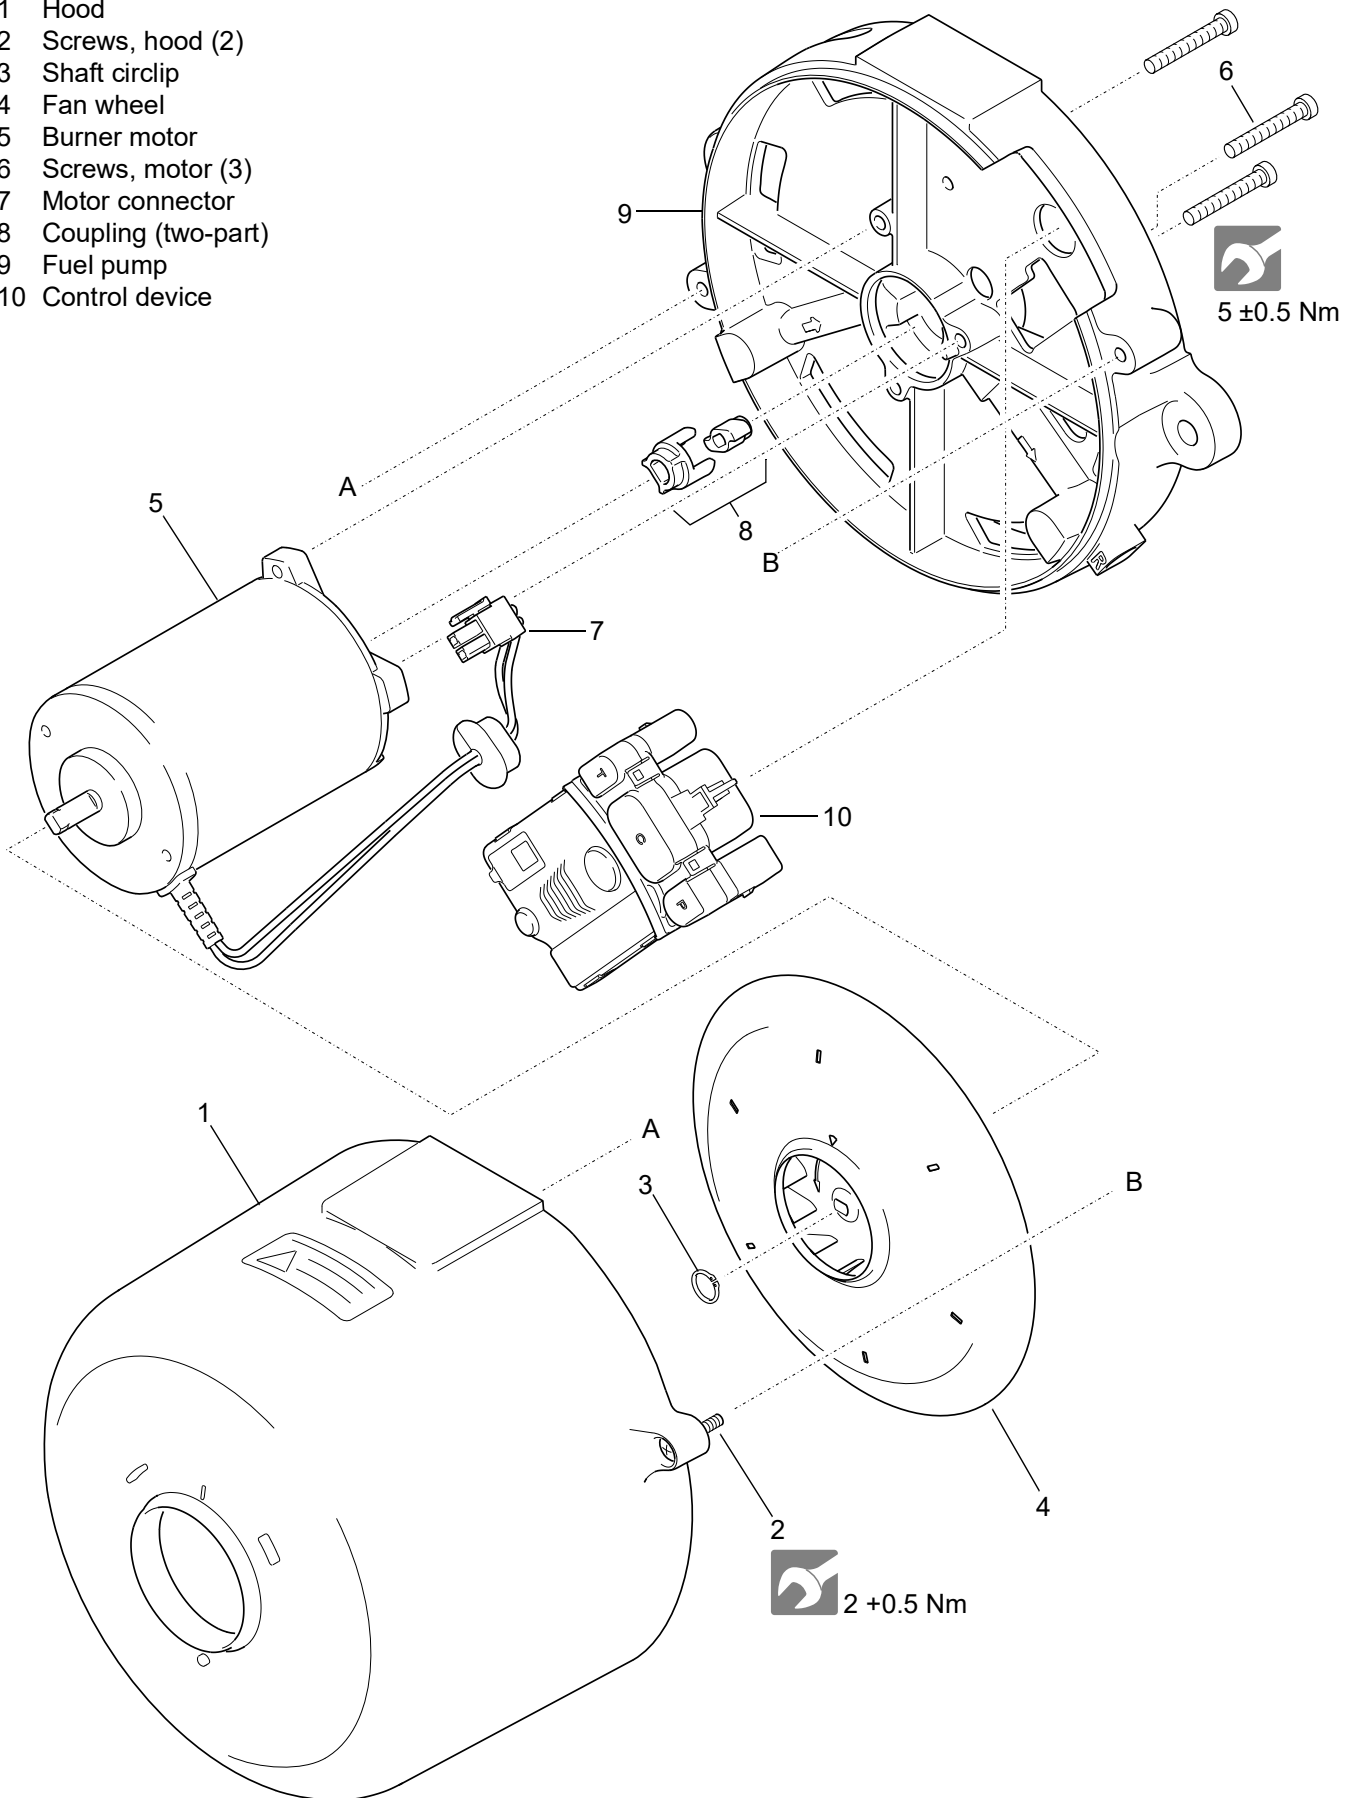

Fig. 804 Component removal and installation (1)
1. Loosen screws (2, Fig. 804).
2. Remove hood (1).
1. Place hood (1, Fig. 804) in assembly position. Ensure center alignment and proper fit.
2. Turn in the screws (2) and tighten them.
3. Unplug the burner motor connector (7, Fig. 804) from control device.
5. Remove fan wheel (4). For that remove the shaft circlip (3) using suitable pliers.
1. Slide the coupling part (8, Fig. 804) onto the motor shaft.
2. Position motor (5) onto the fuel pump (9).
3. Secure motor (5, Fig. 804) using three cylinder screws (6). Tighten cylinder screws.
4. Install fan wheel (4). Install shaft circlip with suitable pliers.
3. Unplug all internal connectors (motor, nozzle block preheating if installed, electronic ignition unit, solenoid valve) from control device (10, Fig. 804).
4. Loosen burner motor (5) cylinder screws (6) in such a way, that the control device (10) can be removed.
5. Remove control device (10).
1. Position control device (10, Fig. 804) to the fuel pump.
2. Screw the burner motor cylinder screws (6) in and tighten them.
3. Reconnect all internal connectors (motor, nozzle block preheating if installed, electronic ignition unit, solenoid valve) to the control device (10).
2. Pre-assemble disc (5), dust protection tube (11) and spring (10).
3. Place disc (5) via fuel nozzle (1) and electronic ignition unit (7) onto the nozzle block. The lower end of the
dust protection tube (11) is thereby pushed onto the lens of the flame guard in the control device (10, Fig. 804). Hold disc in position.
2. Unplug all internal connectors (nozzle block preheating if installed, electronic ignition unit, solenoid valve) from control device (10, Fig. 804).
3. Remove control device (10).
5. Remove coupling part (8, Fig. 804) off the shaft of the fuel pump (9).